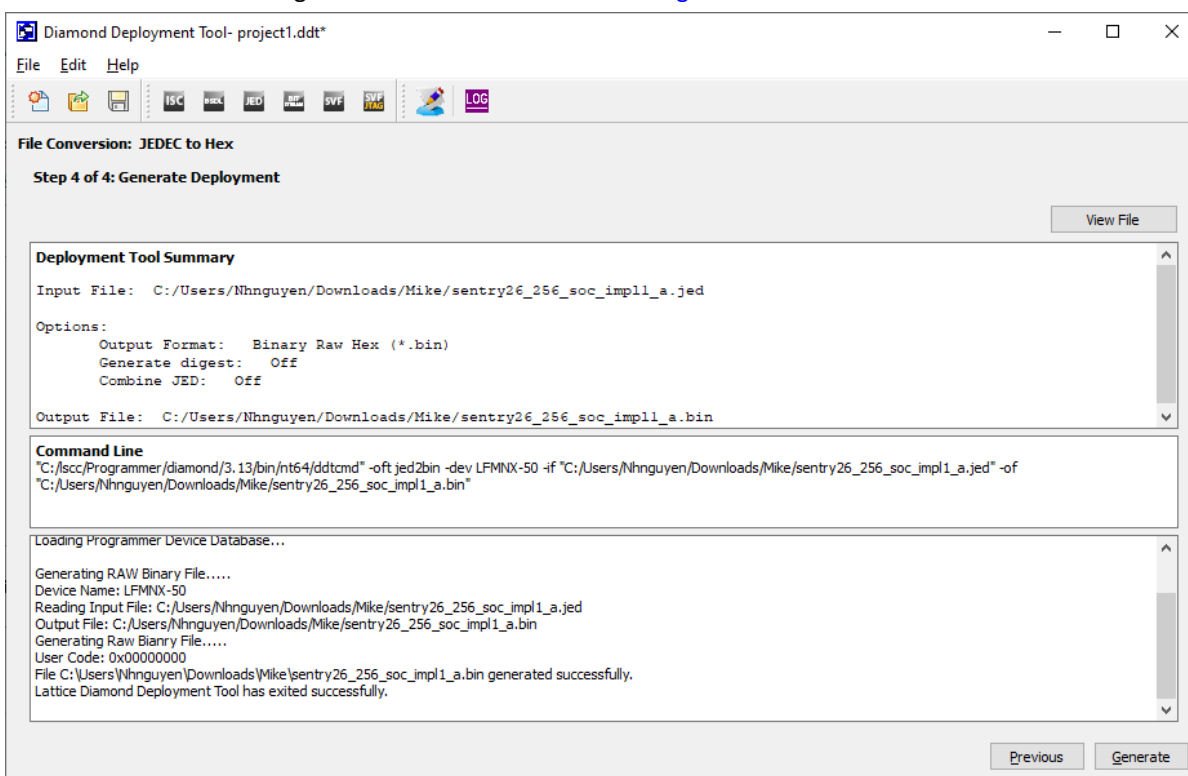

Figure 5.6. Generate the .bin File
8. Click the **Generate** button to generate the .bin file as shown in Figure 5.6.